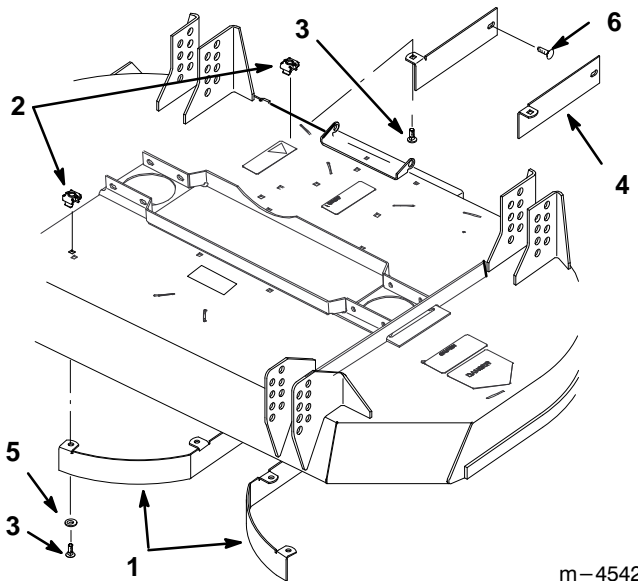

Figure 7
2. Remove cap screws, left and right bagger baffles locknuts, carriage bolts, and left and right discharge baffles from the mower (Fig. 7).
3. Locate the left and right bagger baffles inside the mower and secure with (6) 5/16–18 x 3/4" (19 mm) carriage bolts, through from the top of mower, and (6) 5/16" locknuts (Fig. 7).
4. Locate the left and right discharge baffles inside the mower and secure with (4) 5/16–18 x 3/4" (19 mm) carriage bolts, through from the bottom and inside of mower, washers, and (4) 5/16" locknut.(Fig. 7).